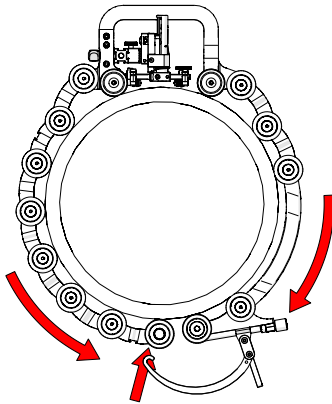
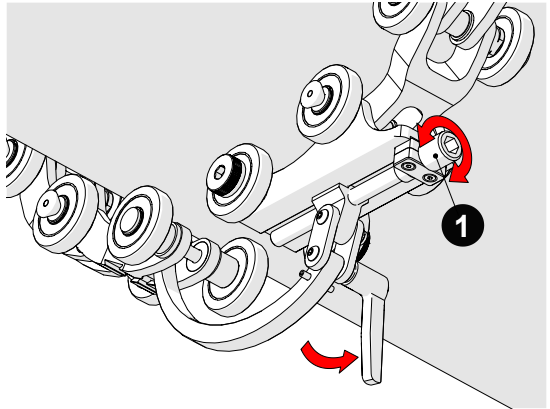

Fig. 73 - Hook buckle to catch link
Fig. 74 - Adjust pressure of buckle
6. Bring the buckle arm towards the catch link. Hook the buckle's arm to the middle axle of the catch link (Fig. 73). The buckle adjustment knob (Fig. 74-1) may have to be loosened to allow the arm to reach the catch link (Fig. 74).